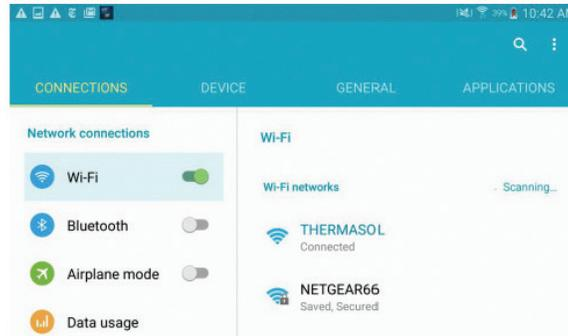

Figure 13: Android Wi-Fi menu
5. After connecting you will see “Connected” beneath ThermaSol as shown below in Figure 13